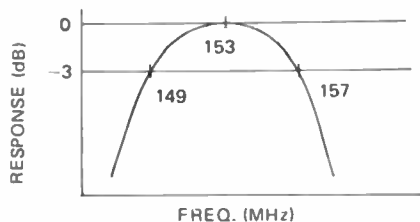

FIGURE 6. VHF RF CHARACTERISTIC CURVE
- Step 2: Adjust T1, T2 and T3 of RF Section for maximum output and best curve symmetry as shown in Figure 6.